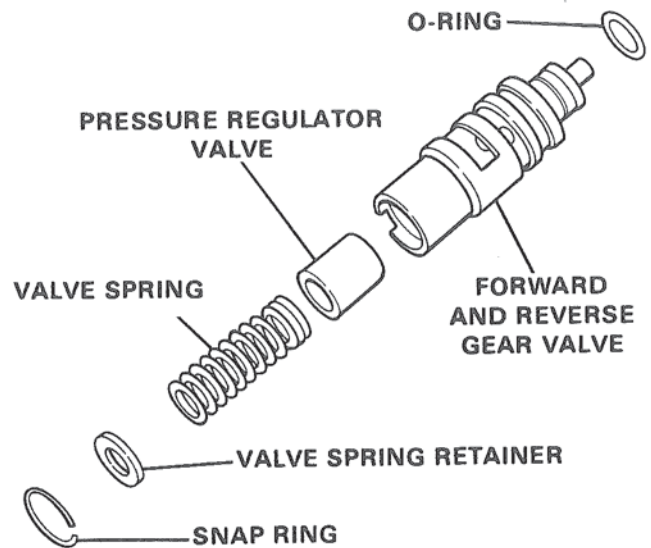
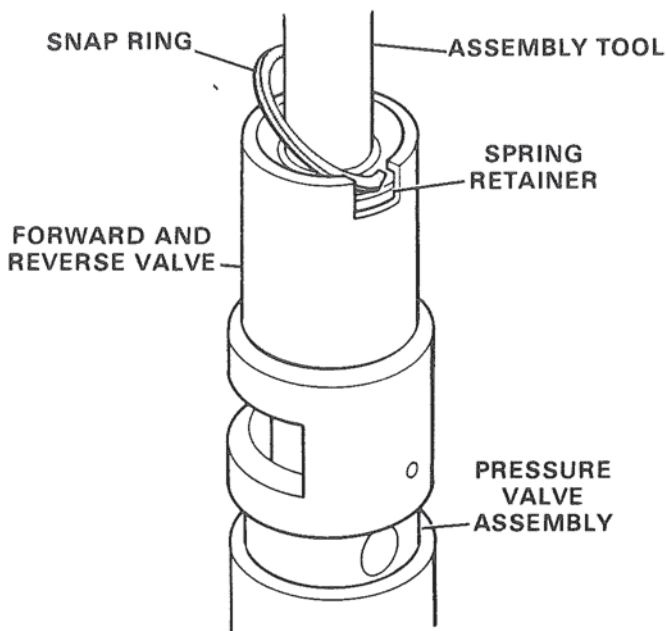

Figure 85. Valve and Spring Assembly.
Figure 87. Installing Snap Ring.
1. Collect the valve and spring assembly components, as shown in Figure 85, on a clean surface and note carefully the following:
2. After carefully checking the pressure regulator valve and the bore in the forward and reverse gear transmission for dirt and burrs, assemble all valve and spring components. Figure 85.
4. Install snap ring shown in Figure 87. The O-ring shown in Figure 85 should be installed on end of valve.